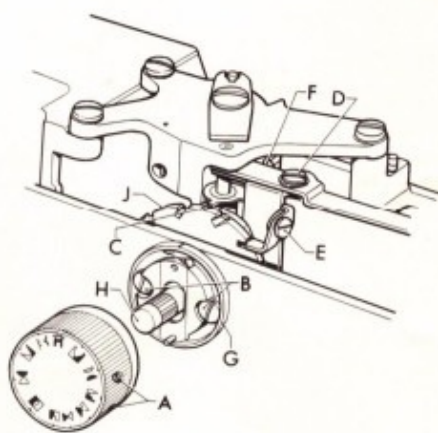

Fig. 20
3. In case of failure, remove pattern selecting knob by loosening two set screws (A) Fig. 20.
4. Loosen screw (B) Fig. 20 and this allows you to move selector assembly (G) up and down freely. Re-position the assembly to bring cam follower to the proper position in relation to the cams.
5. Tighten screws (B) Fig. 20 securely and replace pattern selecting knob. In this case, first turn knob shaft (H) Fig. 20 to bring up positioning mark (C) Fig. 20 on pattern selecting cam (J) to the top position. Keeping this mark (C) in line with the red indicator on selector assembly (G) replace selecting knob with the symbol M set against the red indicator.
6. Tighten screws (A) making sure that there is no axial play on selecting dial knob.
4. In case of failure, loosen set screw (D) Fig. 20 and adjust the horizontal position of follower. Tighten set screw (D). (During this adjustment keep zigzag width lever to No. 4)
Pattern selecting knob is always locked, except when zigzag width lever is at No. 4. This locking action is provided by stopper (K) Fig. 20 wedging into notches of pattern selecting cam (J) Fig. 20. In case there is poor release of this stopper (K) with zigzag width lever at No. 4 or there is too early a release before width lever reaches No. 3½, correct as follows:
1. Loosen set screw (E) Fig. 20
2. Adjust the position of stopper (K)
3. Tighten set screw (E) making certain that stopper touches no part of notch of selecting cam (J) yet stays into notch, when pattern selecting dial is in any latched position of its rotation.